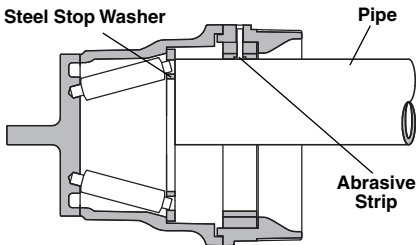

Figure 7B – Pipe OD Cleaning Position
4. While maintaining a firm grip of the drill, pull the prep tool into the cleaning position (*Figure 7B*). The end of the pipe should be against the steel stop washer and the abrasive strip should touch the outside of the pipe. Hold the drill parallel to the pipe, apply sideways force, and move the prep tool around the pipe in an orbiting motion until the seal area is appropriately cleaned. If the drill is not parallel to the pipe, the cleaned area will not be square to the end of the pipe. For fastest cleaning, the orbiting motion of the drill should be in the opposite direction as the rotation of the drill chuck rotation (i.e. for clockwise forward rotation of drill chuck, orbit drill in a counterclockwise direction). This typically takes approximately 15 seconds